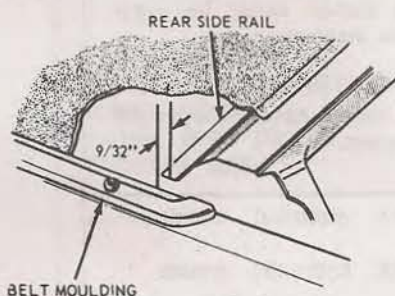

FIG. 2—Top Side Rail-To-Body Clearance
3. Move the main pivot mounting side to side as necessary to obtain a $\frac{9}{32}$ -inch clearance between the outer edge of the rear side rail and the inner flange of the quarter belt moulding (Fig. 2).